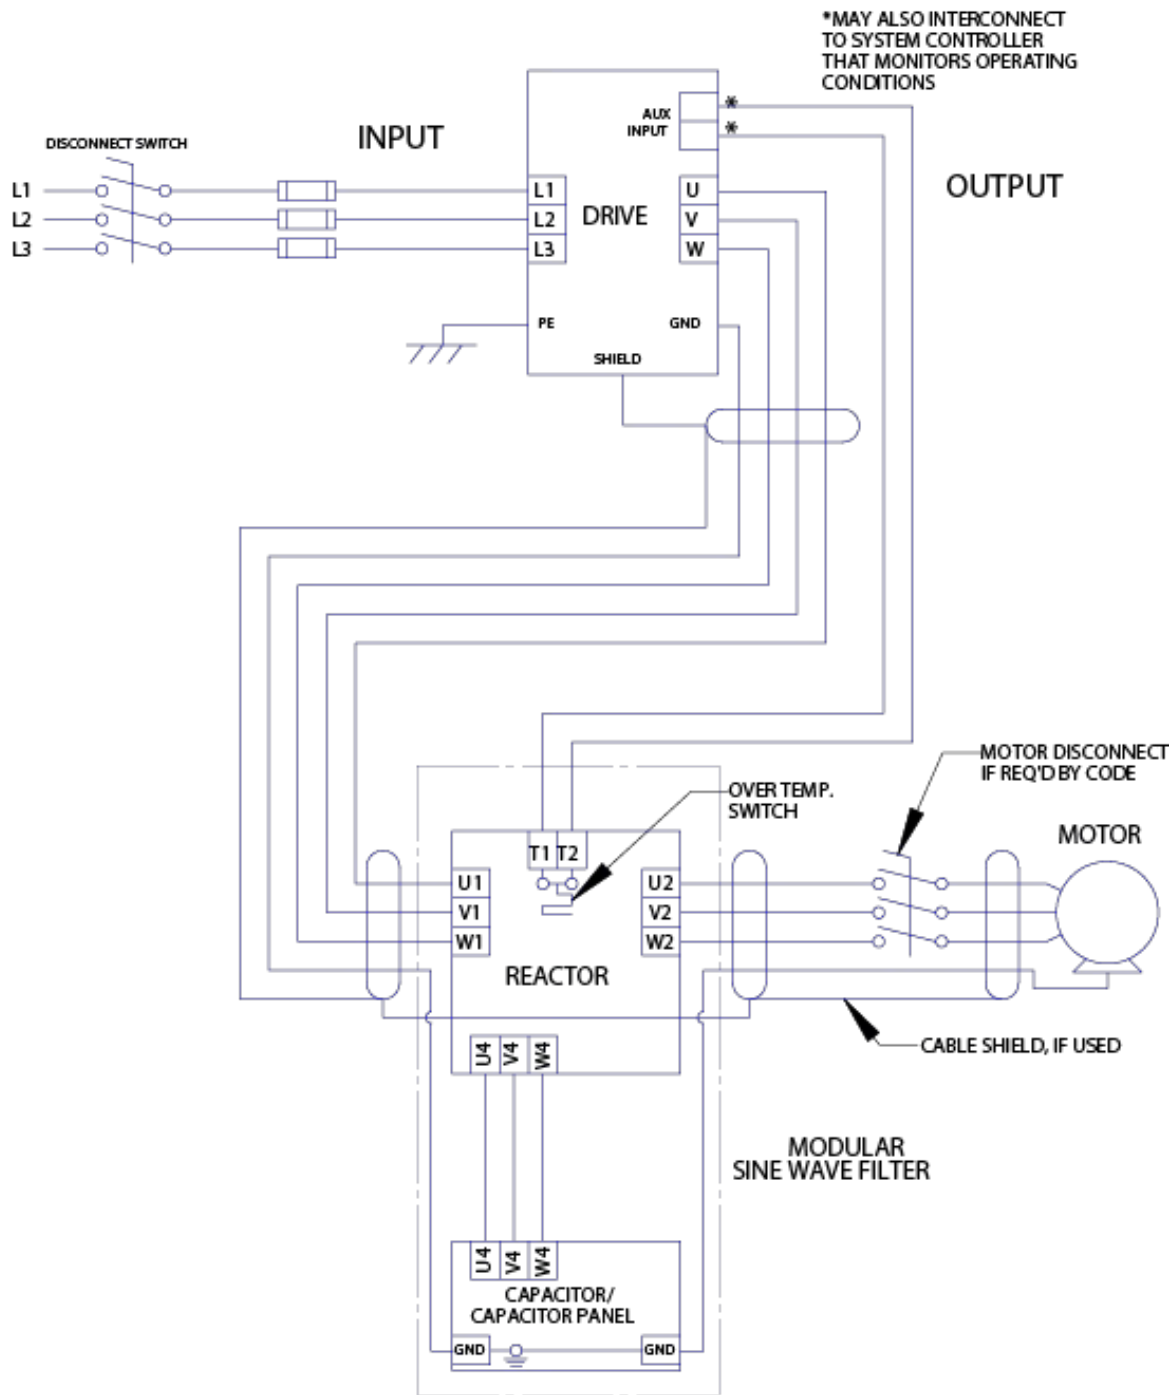

Figure 4: Modular Interconnection
- For modular filters interconnection between the filter, motor and the drive is shown in Figure 4 (p16).